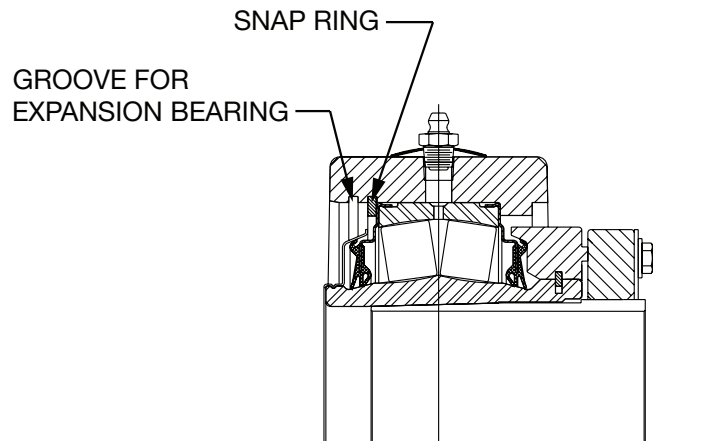

Figure 7 - Conversion from non-expansion to expansion
1. Move snap ring opposite locknut side, to the outer snap ring groove. See Figure 7.